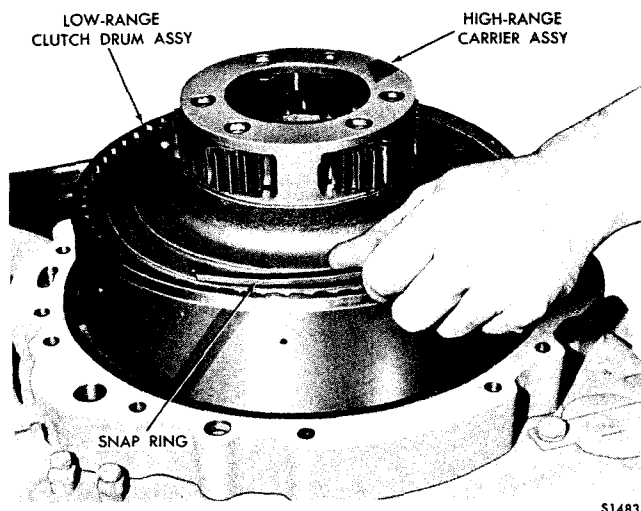

Fig. 7-24. Installing snapring retaining high-range planetary carrier assembly (-3 overdrive model)
(6) Install the high-range planetary carrier assembly and retain it with an internal snapring (fig. 7-24).
(7) Install high-range planetary sun gear 1 (A, foldout 13), meshing its teeth with the high-range planetary pinions.